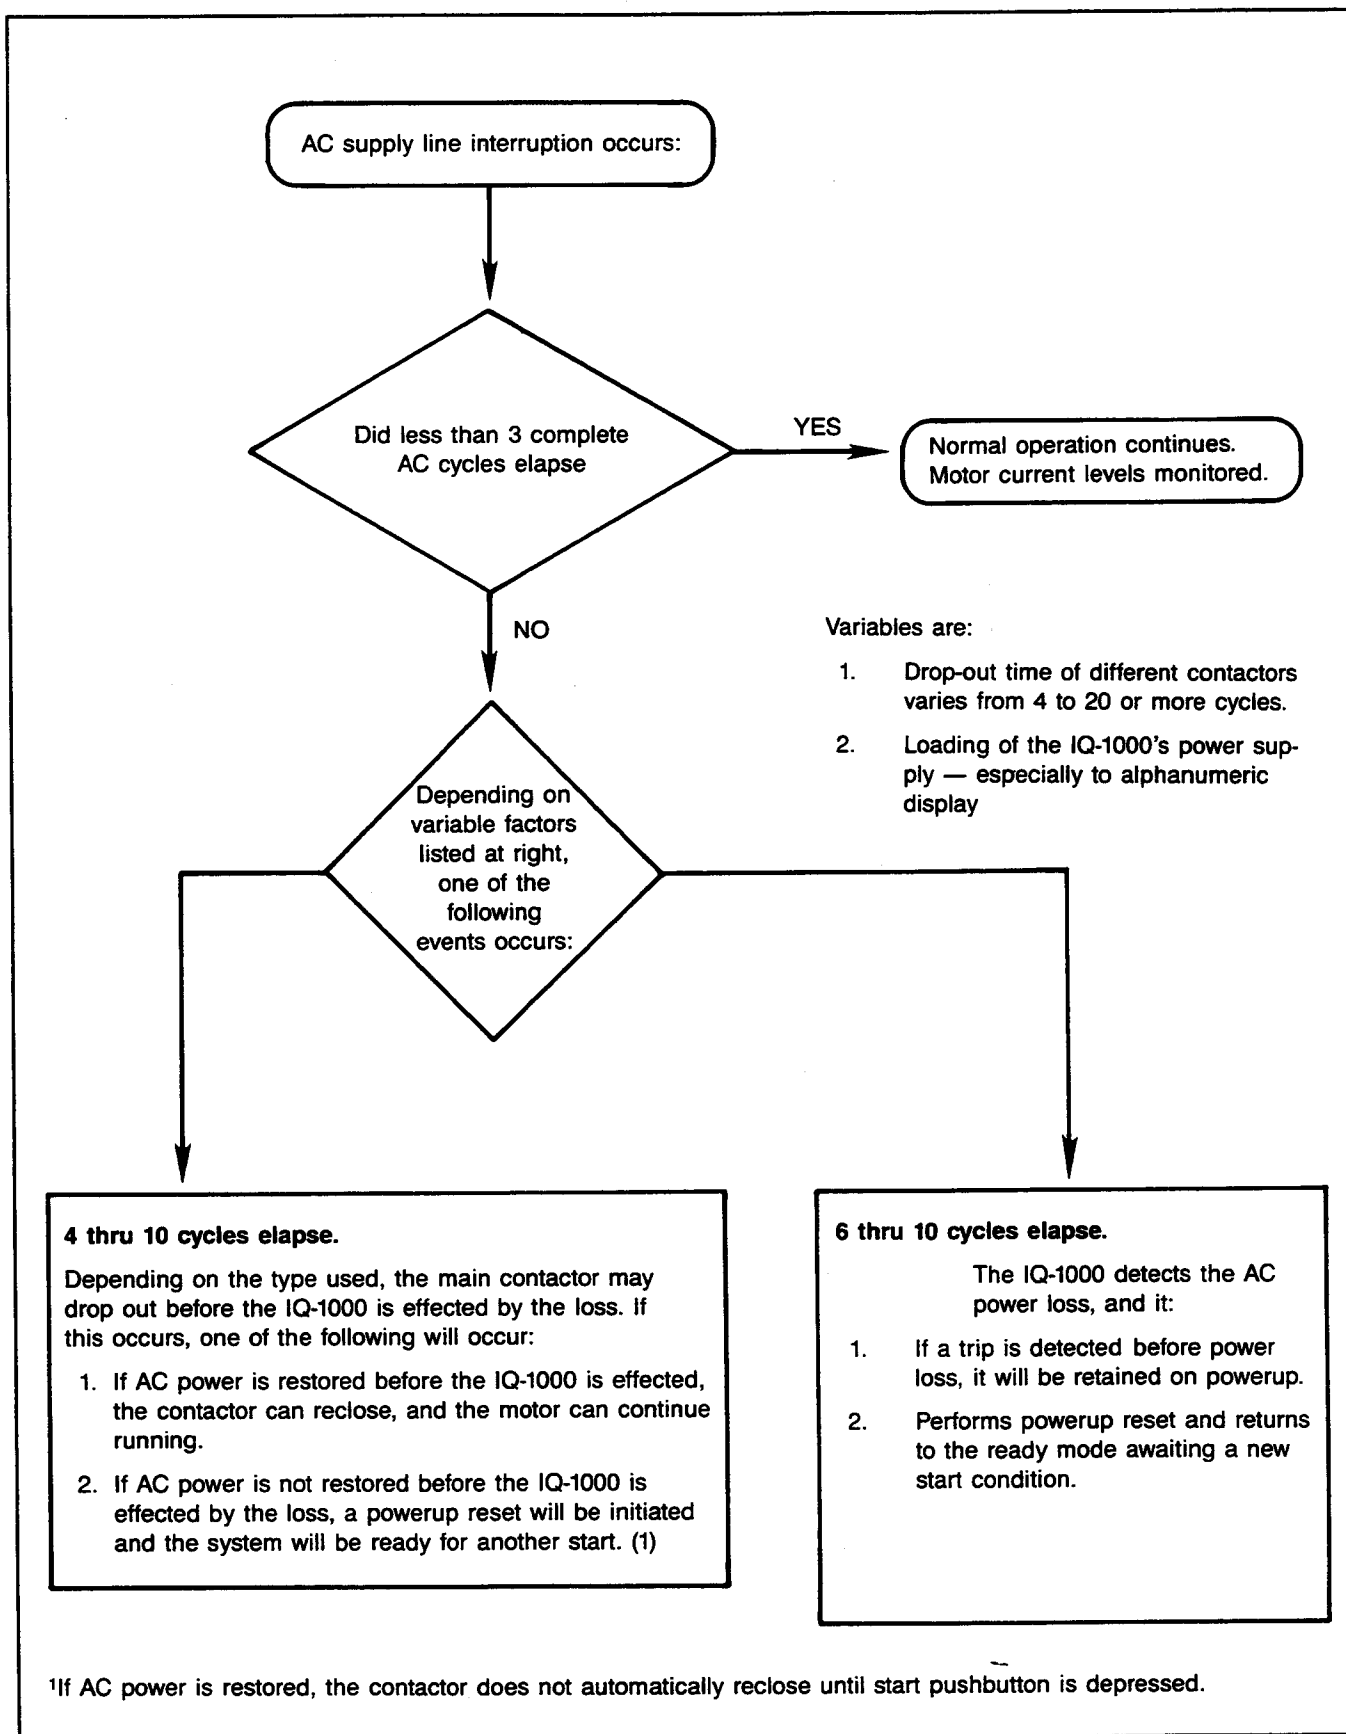

Figure 7.7 — AC Interrupt Events Flow Chart
7.3 AC Line Interruptions — The IQ-1000 operates in a controlled and predictable manner during incoming AC line interruptions. The events flow chart shown in Figure 7.7 lists the predictable events which occur during various AC line interruptions for a typical motor. The chart assumes a complete, or nearly complete, loss of AC line power.